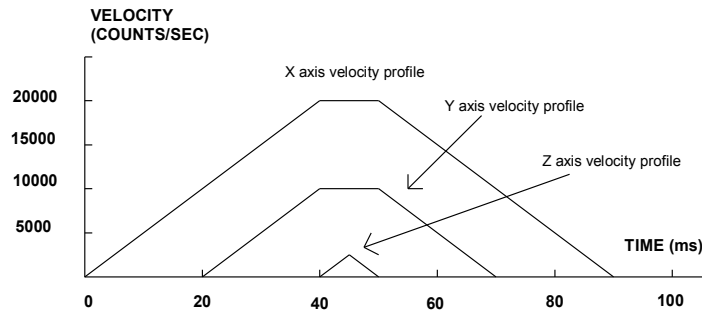

Figure 6.1: Velocity Profiles of XYZ
This example will specify a relative position movement on X, Y and Z axes. The movement on each axis will be separated by 20 msec. Figure 6.1 shows the velocity profiles for the X,Y and Z axis.
**Notes on Figure 6.1:** The X and Y axis have a ‘trapezoidal’ velocity profile, while the Z axis has a ‘triangular’ velocity profile. The X and Y axes accelerate to the specified speed, move at this constant speed, and then decelerate such that the final position agrees with the command position, PR. The Z axis accelerates, but before the specified speed is achieved, must begin deceleration such that the axis will stop at the commanded position. All 3 axes have the same acceleration and deceleration rate, hence, the slope of the rising and falling edges of all 3 velocity profiles are the same.